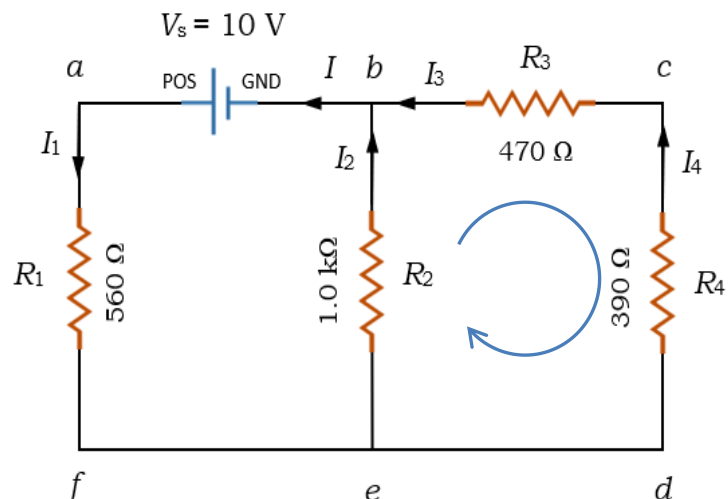
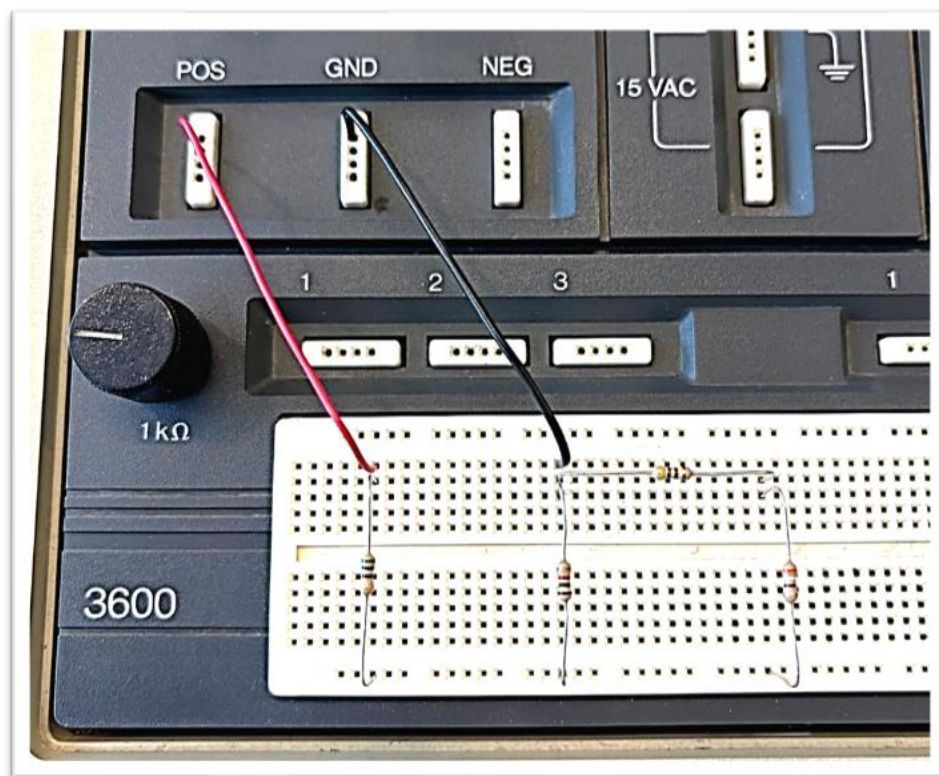

Fig. 1
Fig. 2
1. Using the resistors: $R_1 = 560 \Omega$, $R_2 = 1.0 \text{ k}\Omega$, $R_3 = 470 \Omega$, $R_4 = 390 \Omega$, implement the circuit given in **Fig.1** as shown in **Fig. 2**.